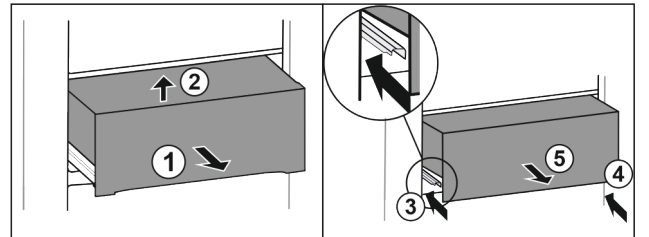

Fig. 24*
- ▶ Pull out the drawer halfway Fig. 24 (1).*
- ▶ Lift at the front Fig. 24 (2).*
- ▶ Slide in left rail Fig. 24 (3).*
- ▶ Slide in right rail Fig. 24 (4).*
- ▶ Remove the drawer to the front Fig. 24 (5).*